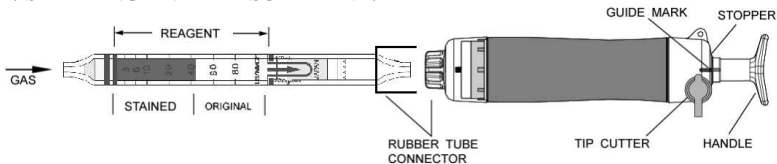

Fig.1
- ① Break both ends of the detector tube.
- ② Insert the detector tube into the aspirating pump securely as shown in Fig.1. (Arrow mark shall point to the pump.)
- ③ Align the guide marks on the shaft and stopper of the aspirating pump.
- ④ Pull the pump handle at a full stroke until it locks and wait for 1 minute or until the completion of sampling is confirmed with the flow indicator of the pump. (See descriptions about the flow indicator in the instruction manual of the pump.)
- ⑤ On completion of sampling, read the scale at the maximum point of the stained layer.